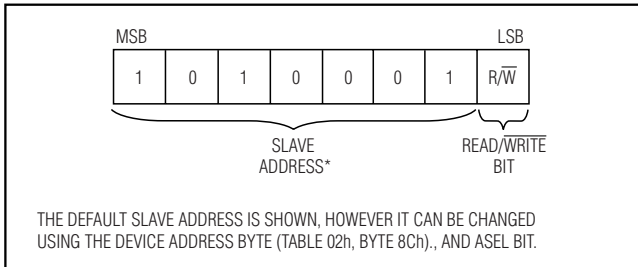

Figure 10. DS1863 Slave Address Byte (Default)
**Slave Address Byte:** Each slave on the I2C bus responds to a slave addressing byte (Figure 10) sent immediately following a START condition. The slave address byte contains the slave address in the most significant 7 bits and the R/W bit in the least significant bit.
The DS1863's slave address can be configured to any value between 00h to FEh using the Device Address Byte (Table 02h, Register 8Ch). The user also has to set the ASEL bit (Table 02h, Register 89h) for this address to be active. The default address is A2h (see Figure 10). By writing the correct slave address with R/W = 0, the master indicates it will write data to the slave. If R/W = 1, the master will read data from the slave. If an incorrect slave address is written, the DS1863 will assume the master is communicating with another I2C device and ignore the communications until the next START condition is sent.